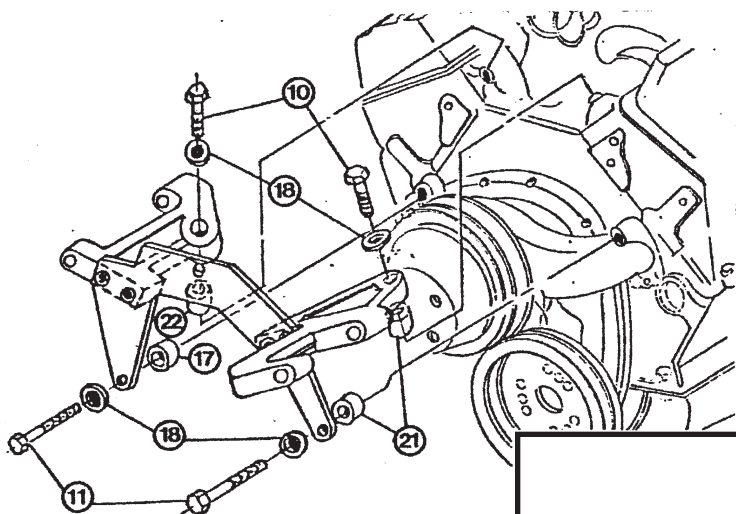

FIGURE 2
2. ATTACH BRACKET ASSEMBLY TO THE ENGINE USING PARTS (12, 13, 14, 19, 20 AND 21) AS FIGURE 2 SHOWS.